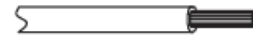

Fig. 17 —Stripping the Wire
2. Strip a suitable length of the insulation layer as shown in Fig. 17.